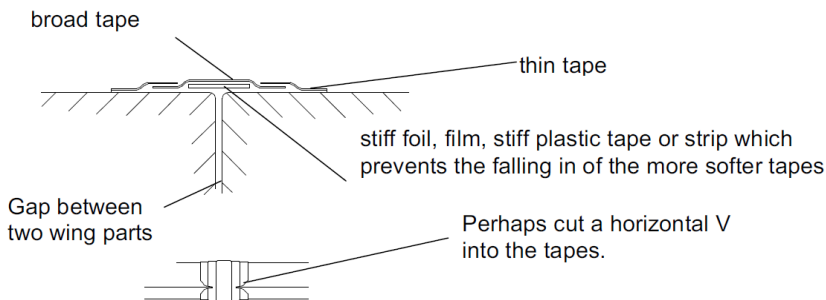

Figure 7.14.3- 1
- Check that the gaps between the fuselage and wings and between wing sections are correctly bridged. While wiping the wiper cleaning filaments may get caught in the gaps if not covered correctly. Figure 7.14.3-1 indicates how Piker-Storka suggests the covering of gaps between panels.